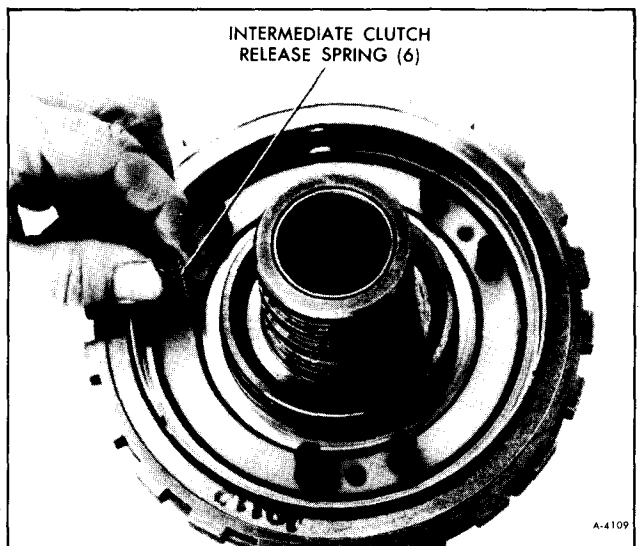

Figure 62—Removing Intermediate Clutch Springs
4. Remove spring retainer, six intermediate clutch release springs, and spring guide. Figure 62.